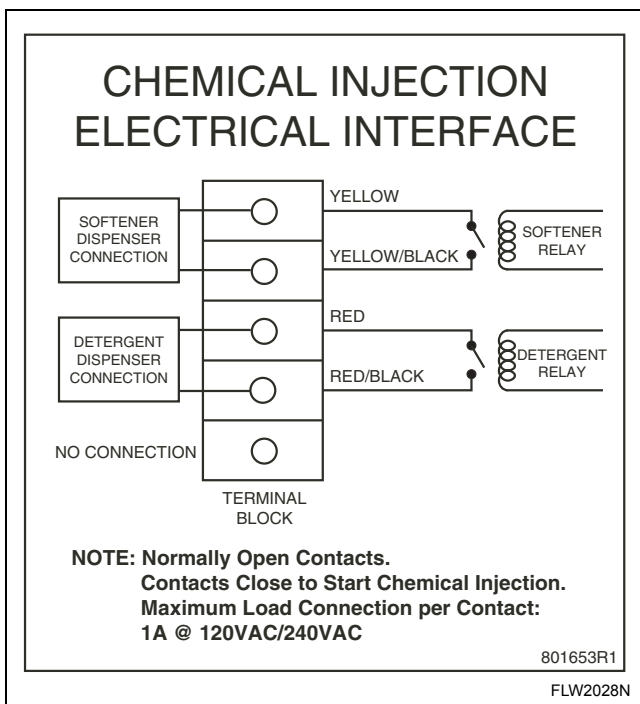

Figure 16
4. Refer to supply injection system instructions and label inside washer junction box cover (*Figure 16*) for electrical connection.
A junction box on the rear panel houses a terminal strip which furnishes supply output signals for the supply injection pumps. These are dry contacts. Voltage needs to be supplied. Refer to *Figure 16* for the injection interface label.